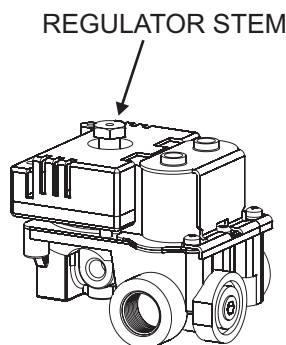

Figure 37
3. Unscrew regulator stem from gas valve and reverse regulator stem to the propane gas position and screw stem back into gas valve. The propane gas arrow will be pointing at the gas valve in the propane gas position. See Figure 37.
4. Open four (4) door latches in order to pivot open the front door.